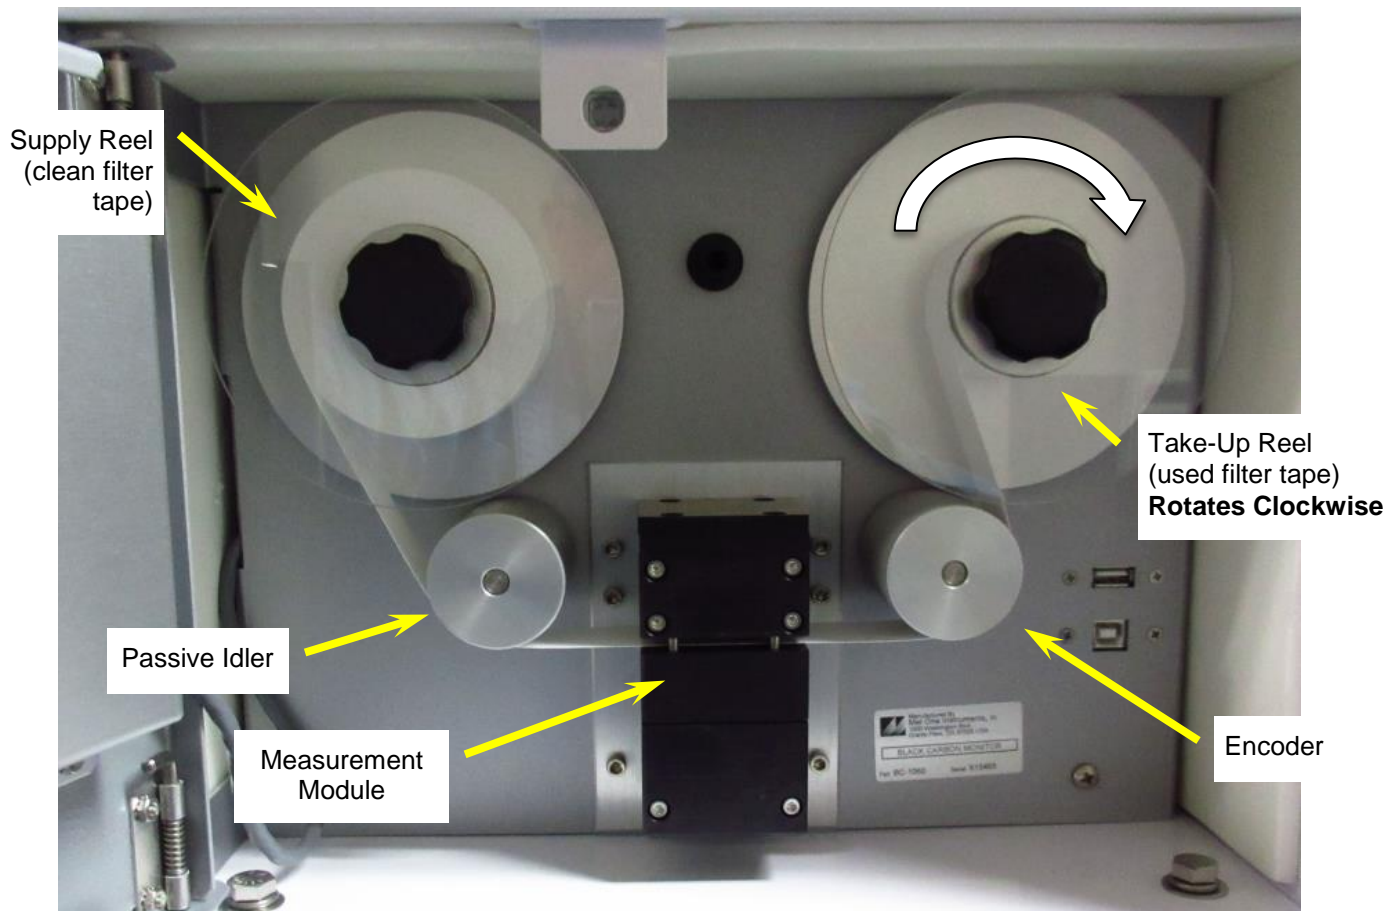

Figure 3-5 BC 1060 Filter Tape Routing
9. Install the new filter tape roll onto the left (supply) reel, with the tape coming off the left side of the roll. Route the tape exactly as shown in Figure 3-5. It should go under the metal idler, through the slot in the measurement module, under the encoder wheel, and then up to the take-up reel on the right side of the instrument. Fasten the loose end of the tape to the left edge of an empty core tube installed on the take-up reel, with cellophane tape. **Make sure that the softer side is UP and the textured side is DOWN.**
7. Install the new filter tape roll onto the left (supply) reel, with the tape coming off the left side of the roll. Route the tape exactly as shown in Figure 3-5. It should go under the metal idler, through the slot in the measurement module, under the encoder wheel, and then up to the